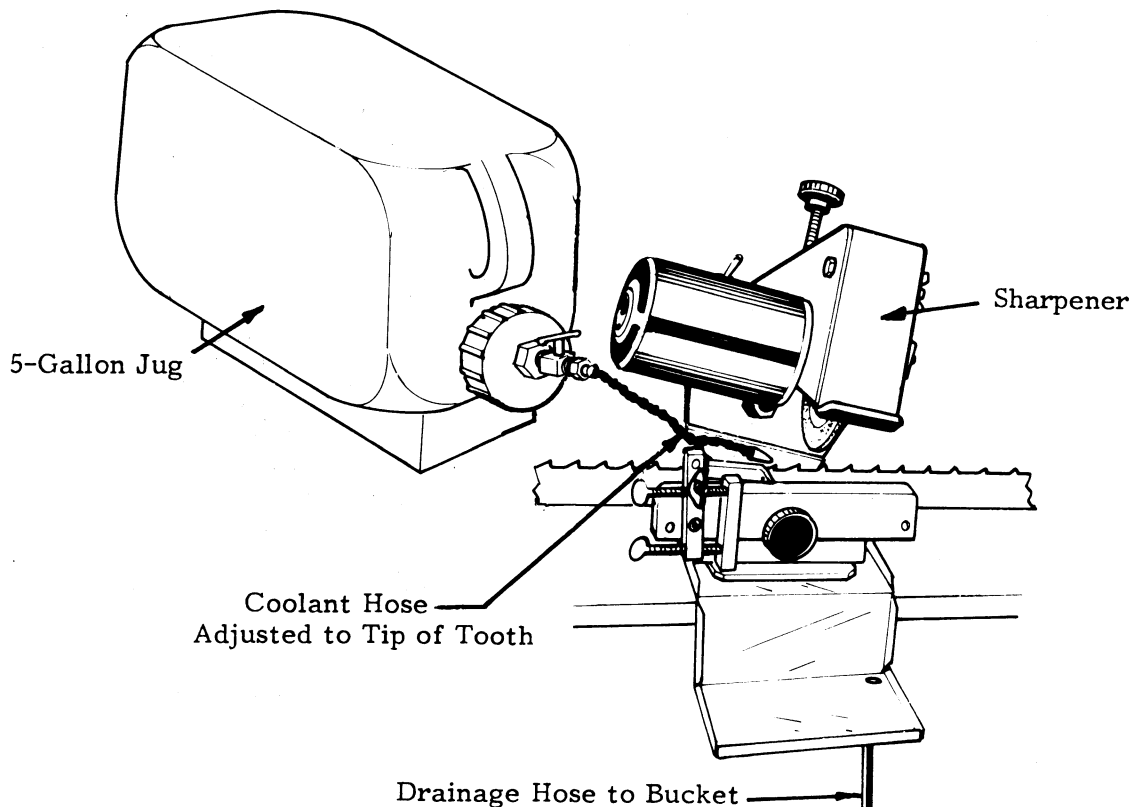

FIGURE 3B
4. **COOLANT MIXTURE:** Fill the five-gallon jug with approximately 4 gallons of water. Add to the water about 1/3 of a bottle of coolant concentrate provided. Set the jug to left and behind the sharpener (See Figure 3B). Lay the jug on its side so that the valve is at the lower front. Elevate the jug so that the bottom of the jug is no lower than the top of the blade set in the sharpener. Assemble the drainage hose to the valve underneath the catch tray. Drain the coolant into a bucket as it can be reused several times.